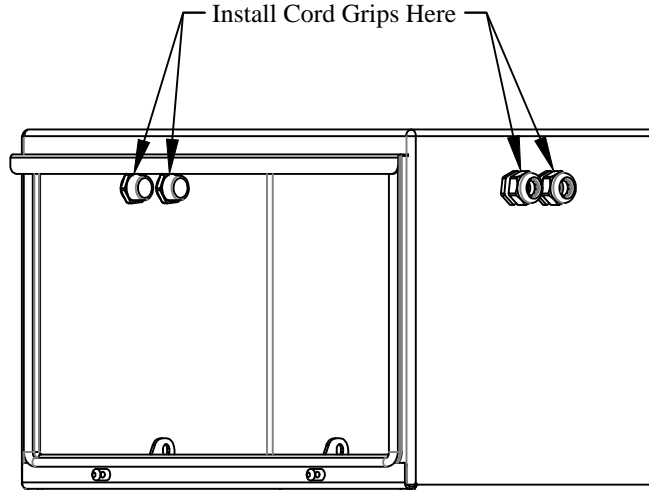

Figure 4: Cord grip installation.
1. **Install** the four cord grips in the auxiliary battery box (Figure 4).